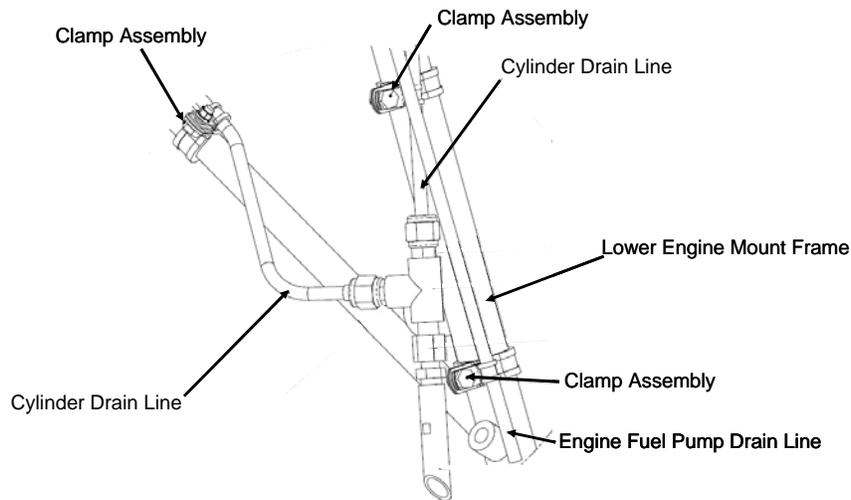

Figure 71-9 Fuel Drain Line Clamp Assemblies
27. Remove clamp assemblies connecting fuel drain lines to the lower engine mount frame assembly as shown in Figure 71-9. Fuel drain lines are removed with the engine.